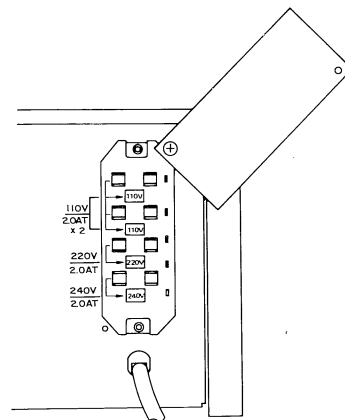

Figure 1
### AC VOLTAGE SELECTION (Refer to Figure 1)
2. Loosen a screw and slide the cover as illustrated in Fig. 1.